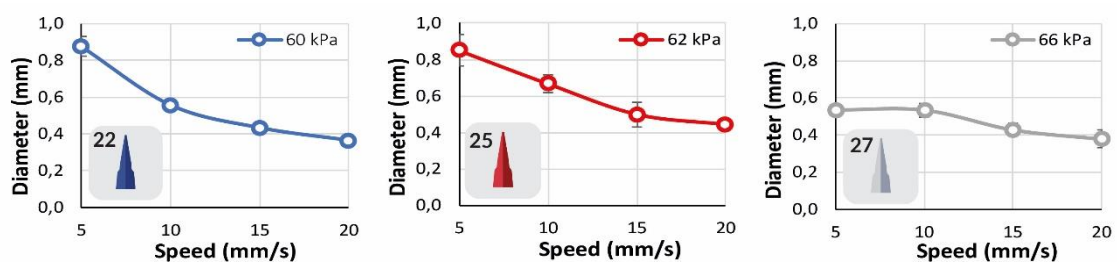

Figure 1. Resulting filament diameter when printing at different nozzle sizes, printing pressures and printing speeds.
- For optimal printability use a layer height equal to the nozzle inner diameter at room temperature. See Figure 1 for suggested printing pressures for corresponding nozzle size and printing speed.